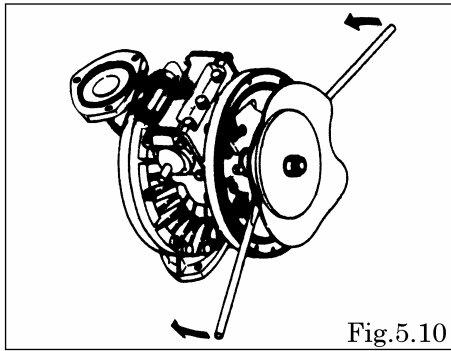

Fig.5.10
- Grip the inside center disk using crowbars and draw it to the opposite side, then turn the diaphragm over. (exclude B□H, B□S type) [Fig.5.10, 5.11]